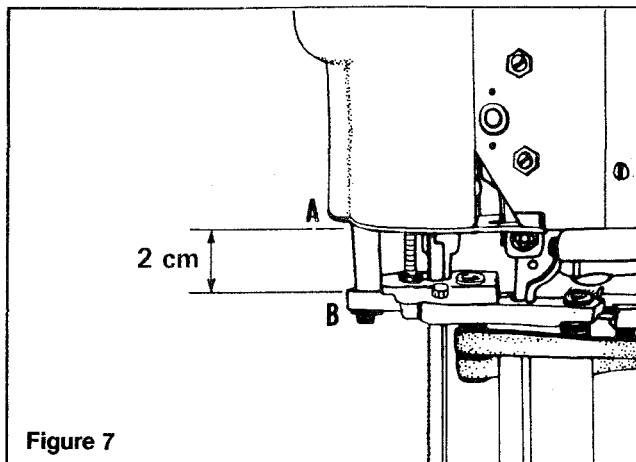

Figure 7
### (Figure 7)
- Fig. 7: Check clearance between lower Cover "A" and top of Gear Case "B." Maximum distance is  $25/32"$  (2 cm) when Brake is properly installed. If distance is greater, reset Brake as Presserfoot Leg A403 will not operate. FlexiBands A386 must not touch Blade A574.